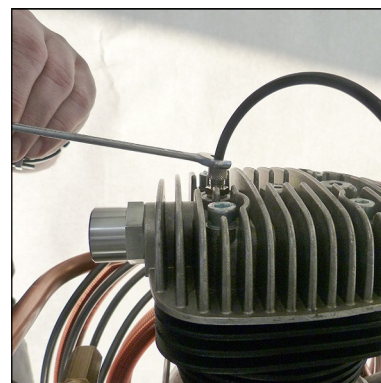

Fig. 1 - Loosen valve head screws
- Loosen screw connections of the crankcase ventilation hose (Fig. 1)